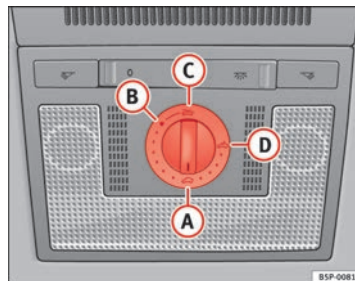

Fig. 68 Roof lining description: sliding/tilting sunroof rotary knob
- Turn the rotary button to position **A** ⇒ fig. 68 ⇒ **A**.